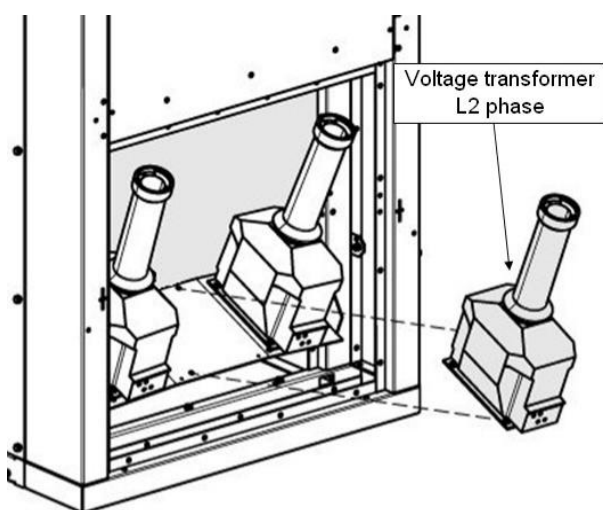

Fig74. Dismounting L2 phase voltage transformer
- ⇒ Take out L2 phase voltage transformer (fig74).